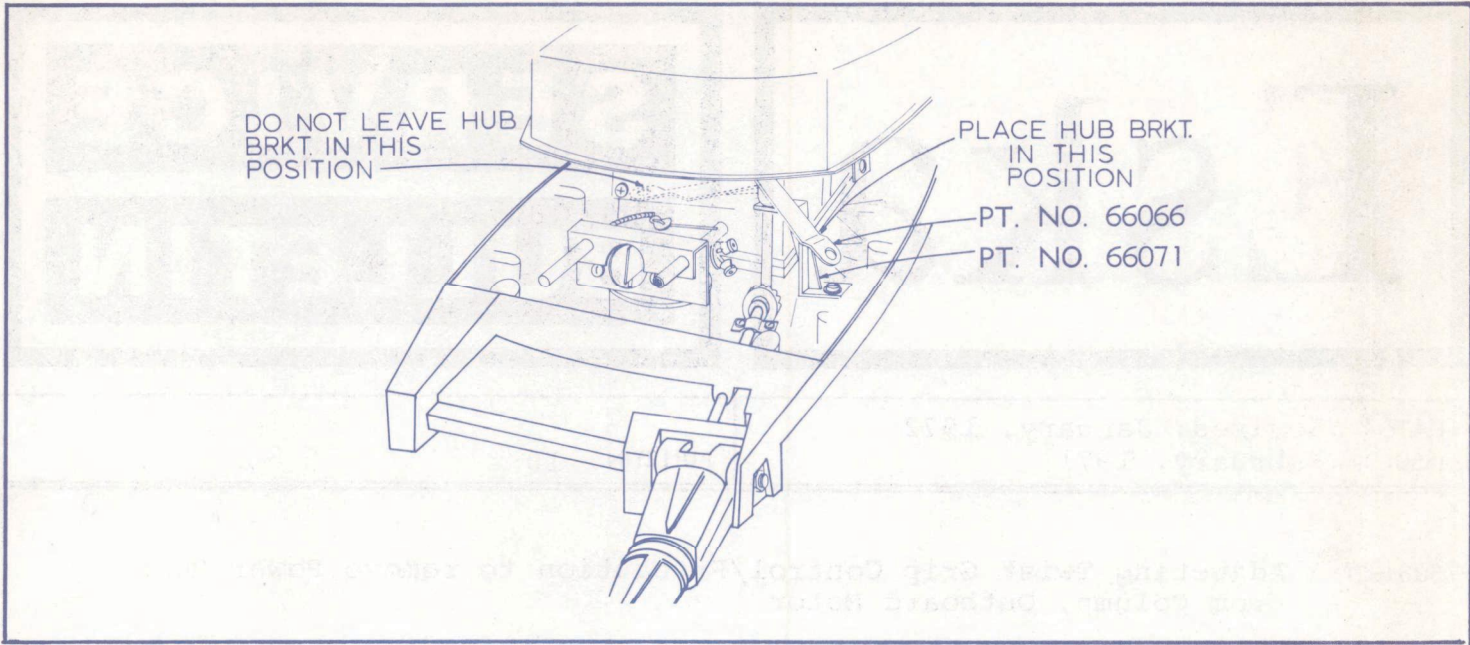

Figure 1
- B. When removing power head from column assembly, caution must be used to avoid unnecessary breakage of Twist Grip Control parts. Recommend throttle be in full-throttle position. This allows throttle hub bracket, Part #66066, and support bracket, Part #66071, to give clearance when removing power head. Always remove retaining ring, Part #7427, and rivet, Part #7607, to disengage the power head throttle control lever from the Twist Grip Control. (See Fig. 1)